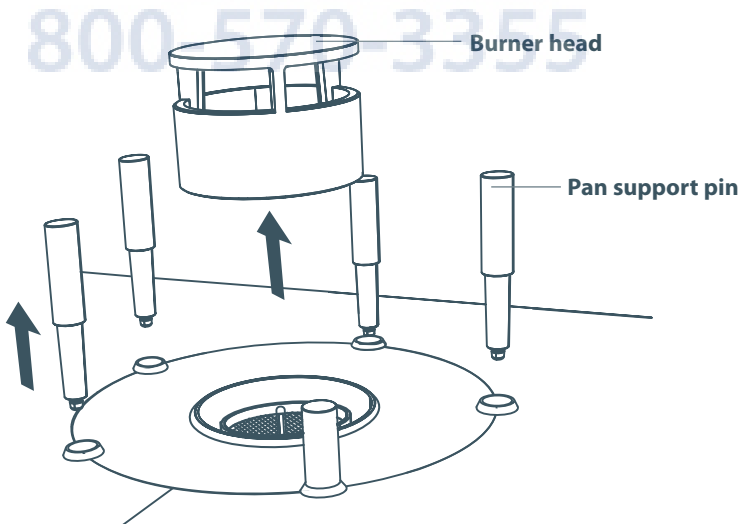

Fig.4 Removing the pan supports
- 4 Lower the pan supports before using to check they have been reassembled correctly (see Fig. 4).